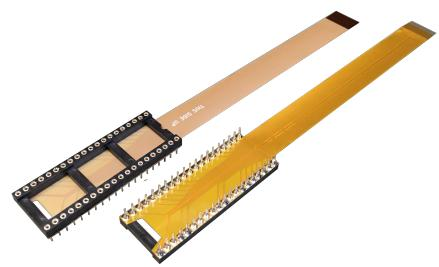

Figure 3. HD-64 VIC-II Interleaver
2. 1x VIC-II Interleaver (Figure 3)